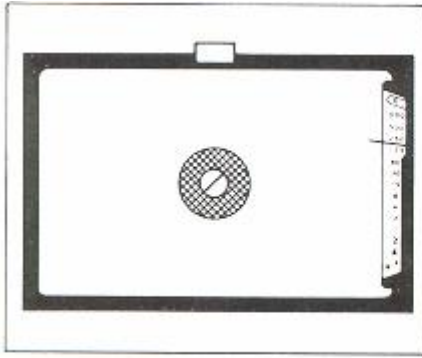

Fig. 20
1. Turn Shutter Speed Dial (8) until the "AUTO" is set opposite Shutter Speed Index Line (7) (**Fig. 19**). Shutter Speed Indicator (49) in the viewfinder indicates "A", showing that the camera is set for automatic exposure control (**Fig. 20**).